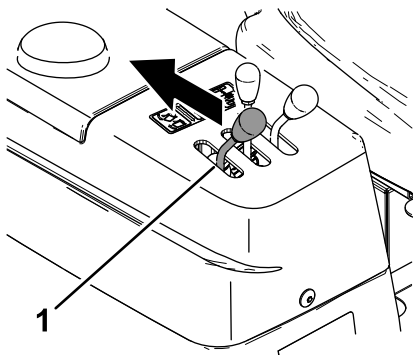

Figure 49
1. Have another person pull rearward and hold the hopper dump lever (Figure 49).